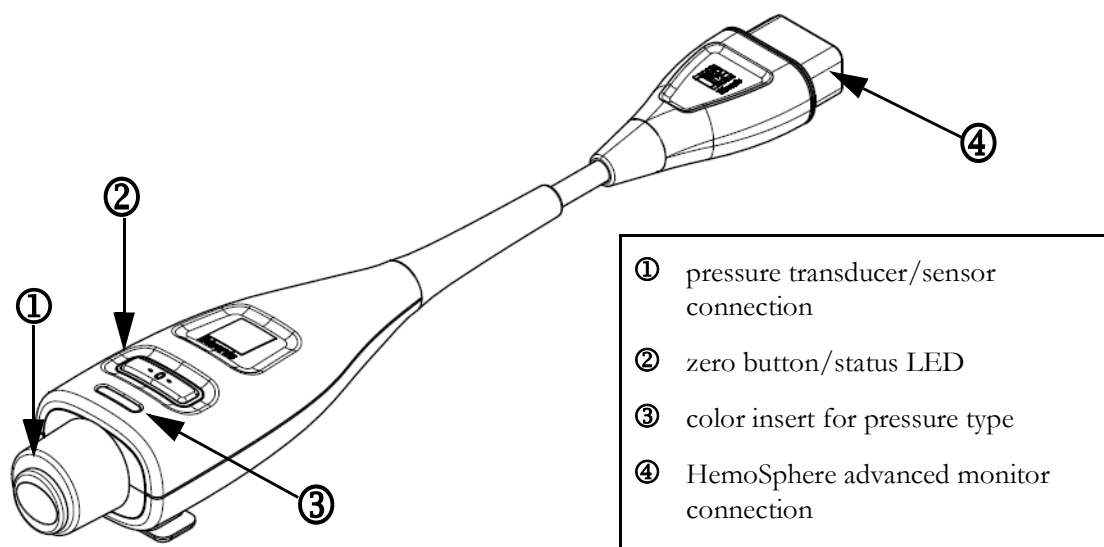

Figure 10-1 HemoSphere pressure cable
The HemoSphere pressure cable is a reusable device that connects with the HemoSphere monitor on one end ④ and any approved single Edwards disposable pressure transducer (DPT) or sensor on the other end ①. See figure 10-1 on page 168. The HemoSphere pressure cable acquires and processes a single pressure signal from a compatible Edwards DPT, such as the TruWave DPT, or a FloTrac sensor. A FloTrac or Acumen IQ sensor connects to an existing arterial catheter to provide minimally invasive hemodynamic parameters. A TruWave transducer can connect to any compatible pressure monitoring catheter to provide location based intravascular pressure. Refer to the directions for use provided with each catheter for specific instructions on catheter placement and use, and for relevant warnings, cautions and notes. The HemoSphere pressure cable can be monitored through two technology monitoring modes based on the paired sensor/transducer: **FloTrac** or **Acumen IQ** sensor monitoring mode or **Swan-Ganz** catheter monitoring mode. The monitoring mode appears on the top of the navigation bar (see figure 5-2 on page 85). The appearance and connection points for the HemoSphere pressure cable are shown in figure 10-1.
Pressure Type Color Insert. If desired, the appropriate color insert can be used on the pressure cable to indicate the monitored pressure type. See ③ in figure 10-1 below. The colors are as follows:
- Red for arterial pressure (AP)
- Green for cardiac output (CO)
- 7 Use a straight in or out motion to connect the green connector of the primed FloTrac sensor. The pressure cable LED that surrounds the zero button (see ② in figure 10-1) will flash green indicating that the pressure sensor is detected. A yellow light indicates a fault condition. If this occurs refer to the status bar for specific fault condition details.
Press the physical zero button  directly on the pressure cable and hold for three seconds (see figure 10-1).